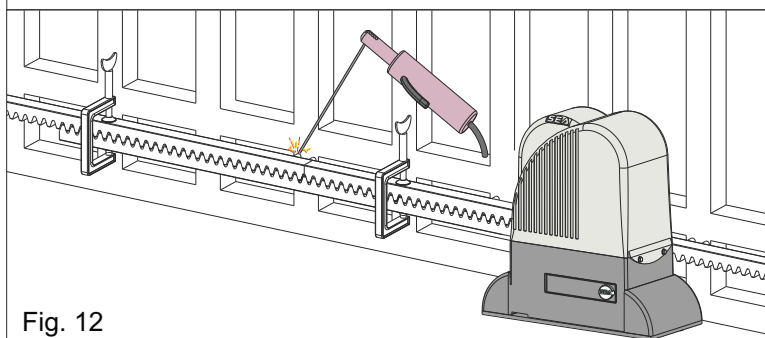

Fig. 12
5.4. Make sure that all the gear rack elements are perfectly aligned and correctly placed (**the teeth must be in phase**). It is suggested to oppose an element to two aligned elements as shown in Fig. 12;